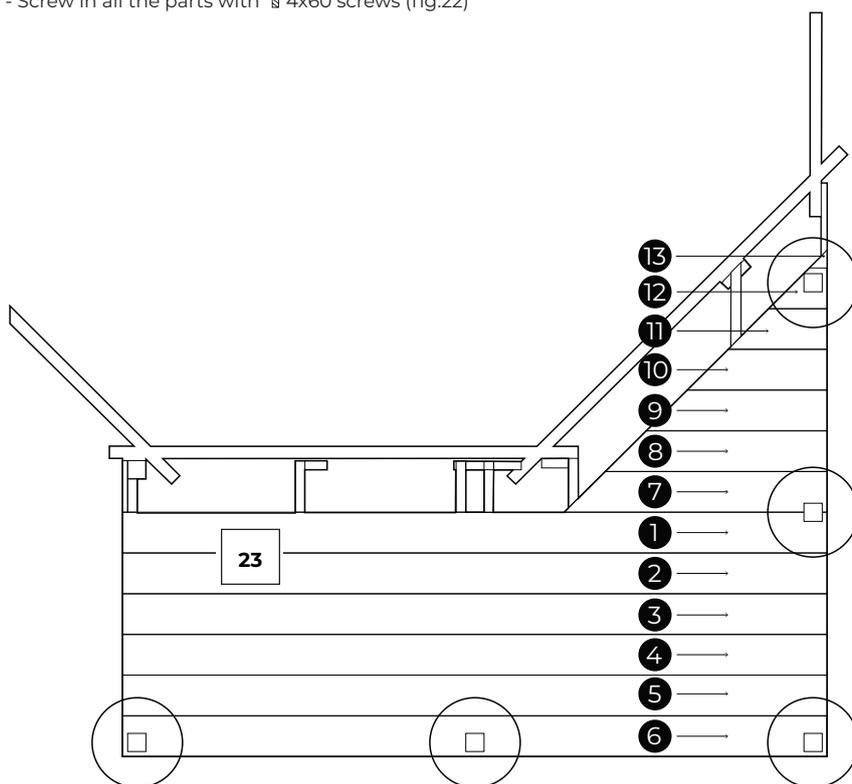

Fig. 20
- Position the floor following the sequence order (fig.20)
- Cut the marked planks to adapt them properly (fig.20 and fig.21)